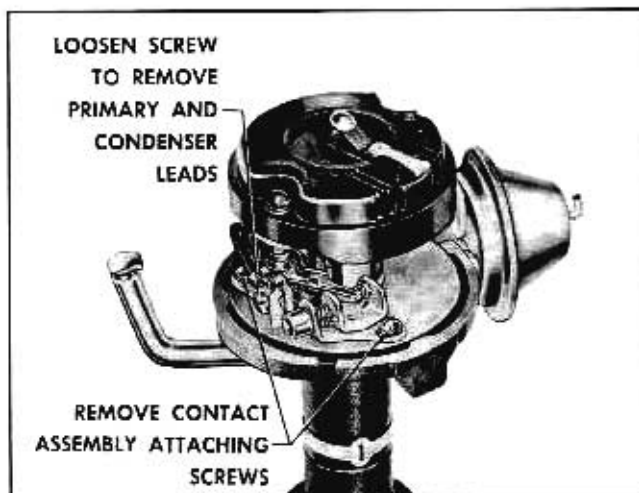

Fig. 11-40 Distributor Contact Details
1. Remove two attaching screws (Fig. 11-40) which hold base of contact set assembly in place.
2. Remove condenser lead and primary lead from nylon insulated connection by turning screw (Fig. 11-40) in contact set.